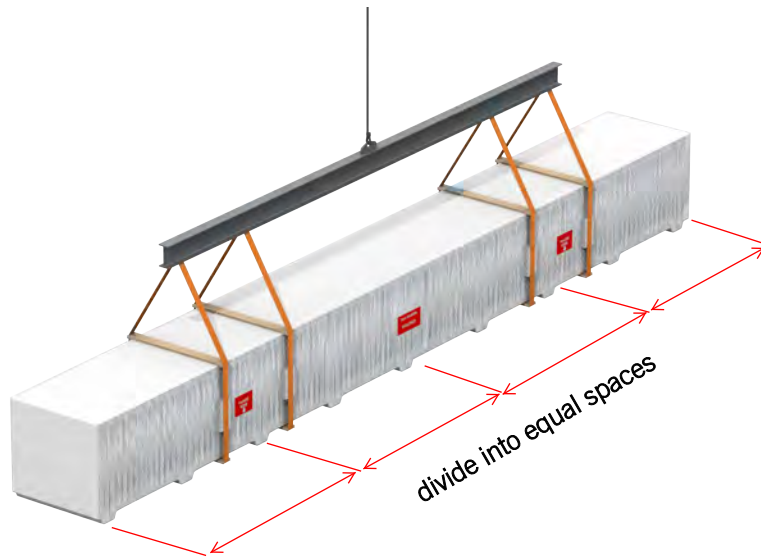

Figure 5.14
5.14 Bundles over *4,000 lbs. and less than 44'* may be lifted as shown in figure 5.14